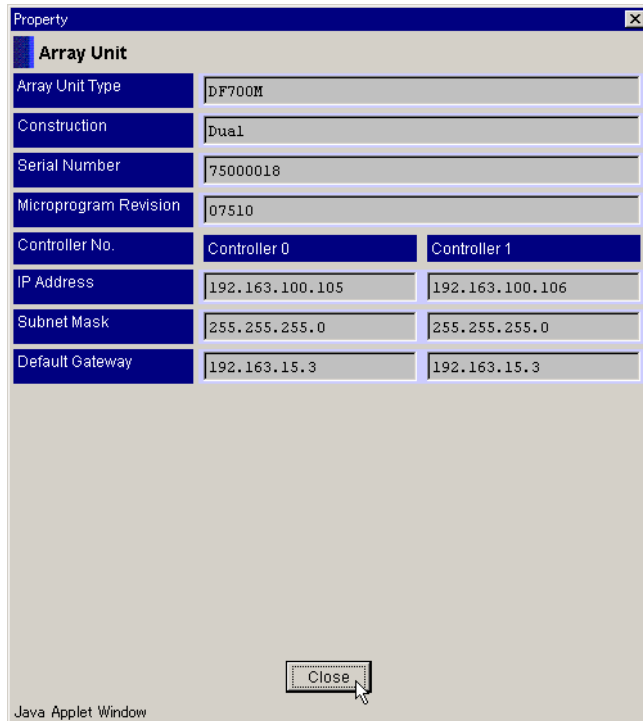

Figure 4.18 Property – Array Unit
- To display the properties of the subsystem, on the **View** menu, select **Properties**. The **Property** screen displays the following information. See Figure 4.18.